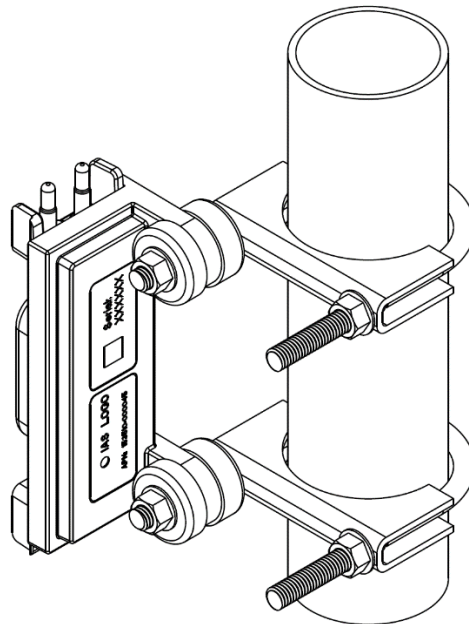

Figure 2: Installing ECUs
1. Position two U-bolts (356070-000064, 356070-000065, or 356070-000066) on the mounting location as shown in Figure 2 and place the saddle clamp overtop of the U-bolt.